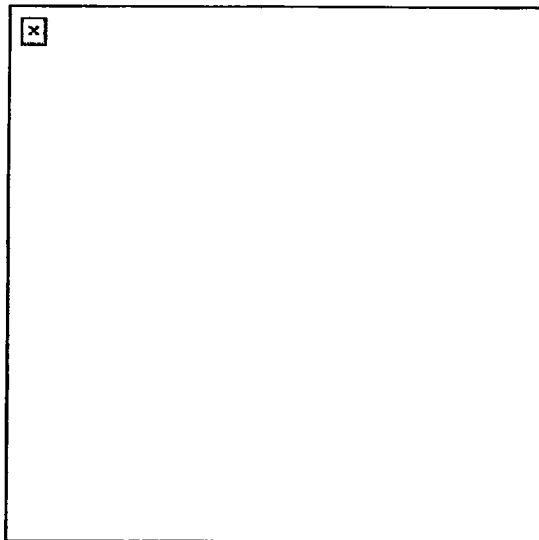

Figure 9. Removal of the top cover assembly and feed tray.
- (1) Pivot the tray that holds the feed slide assembly out of the top cover.
- (2) Move the feed slide assembly to line up the tabs with the slots in the tray.
- (3) Lift upward on the feed slide assembly.
- f. Remove the top cover assembly and feed tray (Figure 9).